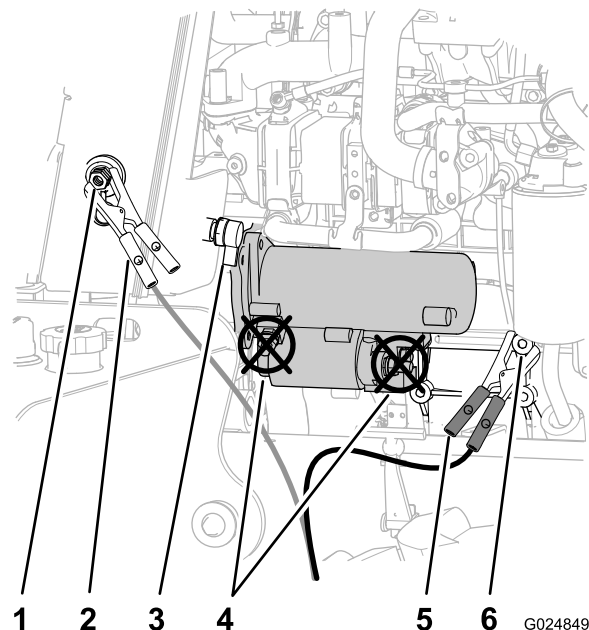

Figure 78
4. Remove the cover from the jump post (Figure 78).
5. Connect the positive (+) jumper cable to the jump post (Figure 78).
- Connect the negative (-) jumper cable to a ground point, such as the nut at the pivot point for the alternator (Figure 78).